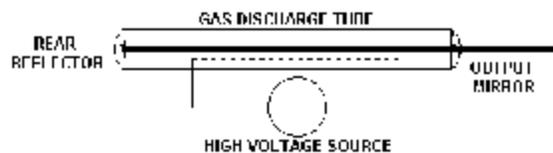

Figure 7. Gas laser diagram
Gas lasers consist of a gas filled tube placed in the laser cavity as shown in Figure 7. A voltage (the external pump source) is applied to the tube to excite the atoms in the gas to a population inversion. The light emitted from this type of laser is normally continuous wave (CW). One should note that if Brewster angle windows are attached to the gas discharge tube, some laser radiation may be reflected out the side of the laser cavity. Large gas lasers known as gas dynamic lasers use a combustion chamber and supersonic nozzle for population inversion.